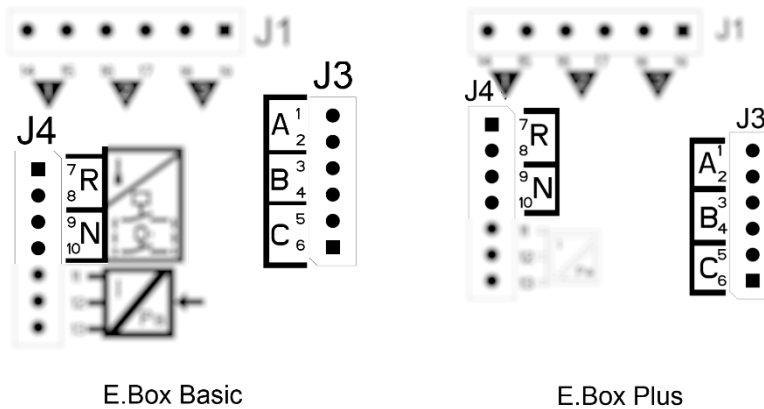

Figure 32: Position of inputs and alarms
**Note:** if this alarm is not used, input N must be jumpered. To identify input N, refer to Figure 32.